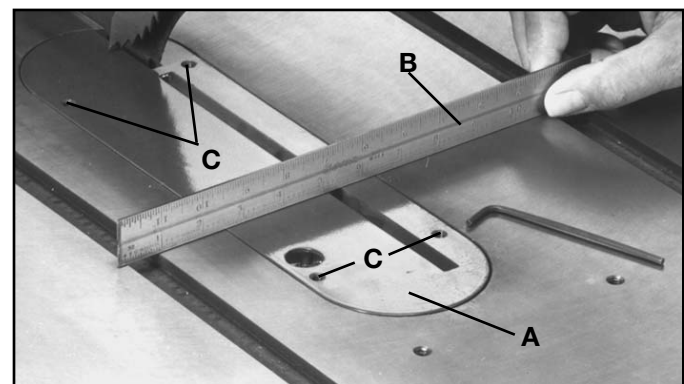

Fig. 19A
Place a straight edge (B) across the table at both ends of the table insert as shown in Fig. 19A. The table insert (A) should always be level with the table. If an adjustment is necessary, turn the adjusting screws (C), as needed. Four adjusting screws (C) are supplied.